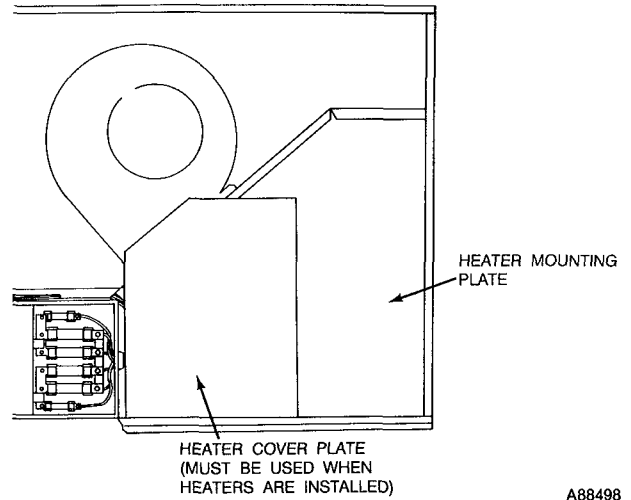

Fig. 4—Exterior View (Large Cabinet Shown)
Step 3—Remove heater cover plate from heater mounting plate. Install heaters through opening in heater mounting plate. See Fig. 4.